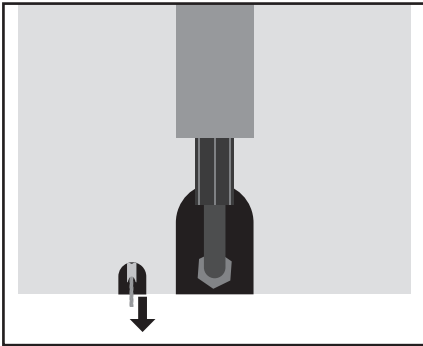

Fig. 8
1. Loosen the T-rip and feed the steel cable along the synchronization steel cable to the column with a hydraulic pump (Fig. 8).